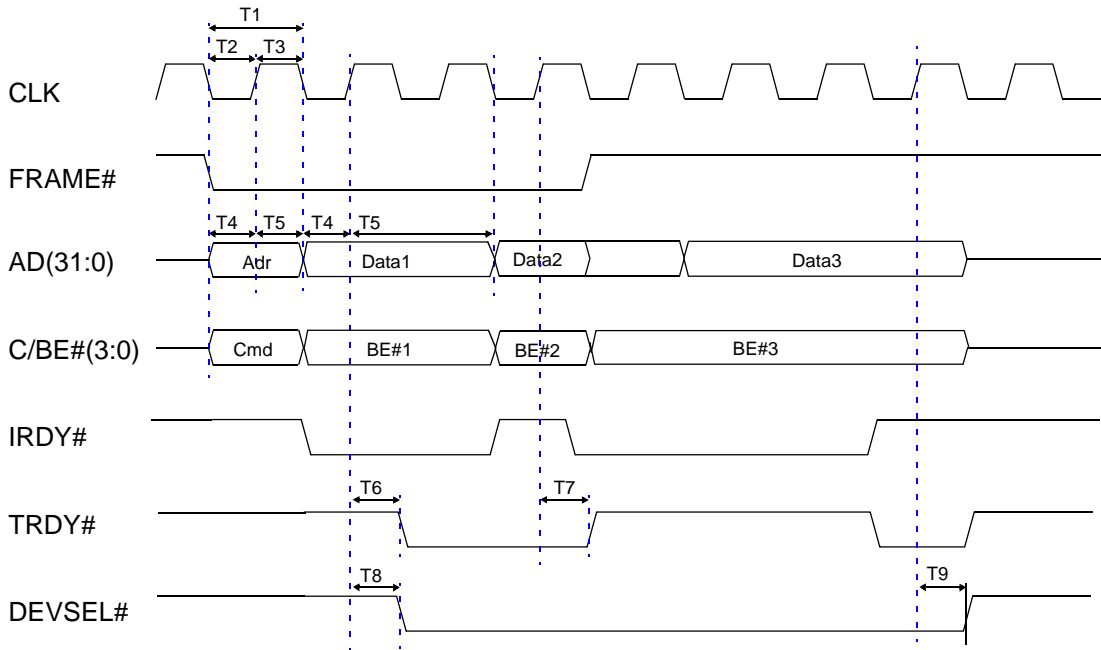

Figure 5-3. Burst Access Timing - PCI Bus
- Burst Access Timing, see *Figure 5-3*.